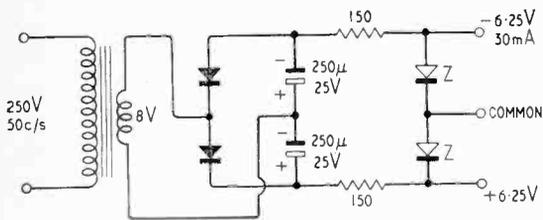

Fig. 9. Phasemeter power supply unit.
**Power Supply Unit:**—This is detailed in Fig. 9. It makes use of a small bell transformer (Friedland),